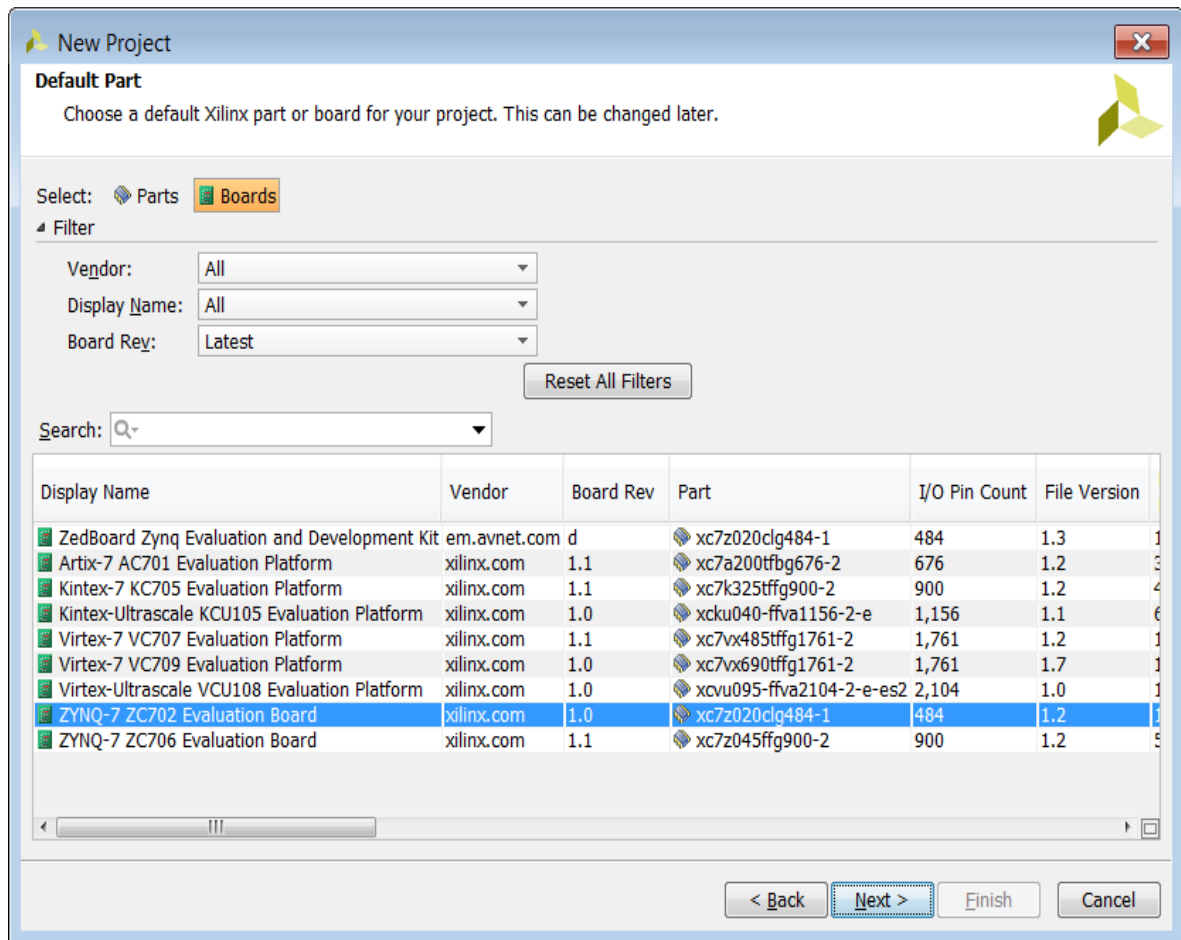

Figure 9-5: Vivado Project Specification
6. On the Default Part page, under Specify, click **Boards** and select the **ZYNQ-7 ZC702 Evaluation Board**, as shown in Figure 9-5 and press Next.